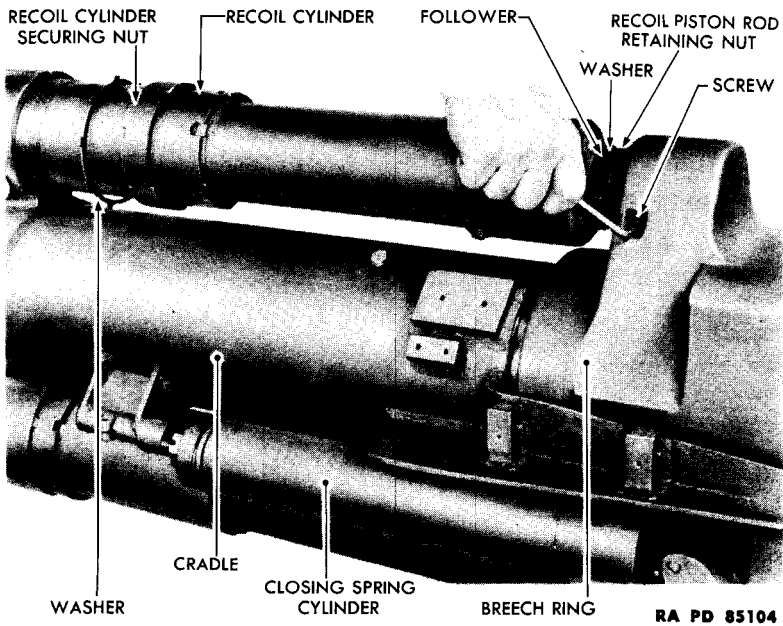
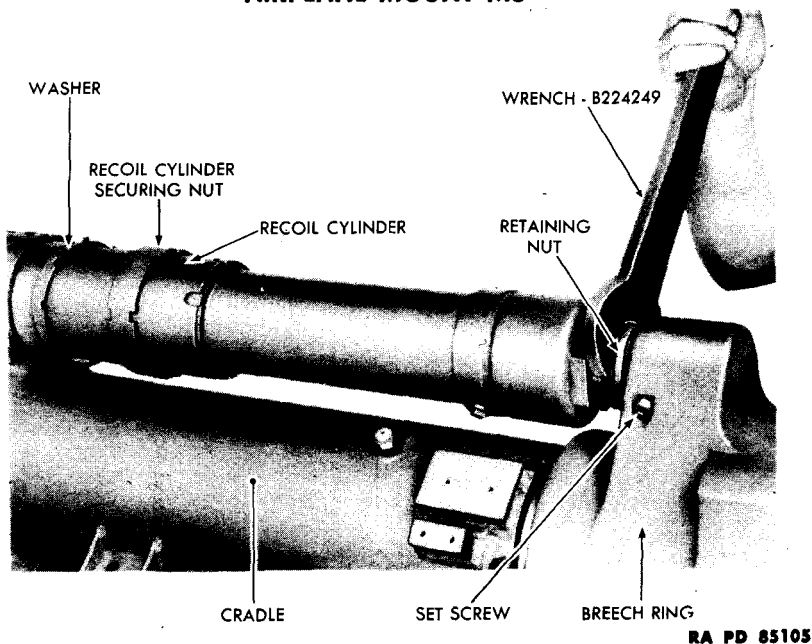

Figure 63 – Loosening Recoil Cylinder Coupler Nut Set Screw
Figure 64 – Removal of Recoil Cylinder Coupler Nut
d. Disconnect Recoil Cylinder from Breech Ring. Loosen set screw that secures retaining nut in breech ring (fig. 63). Unscrew retaining nut from breech ring (wrench B224249) (fig. 64). As this recoil cylinder retaining nut is unscrewed from breech ring, the recoil cylinder to which nut is installed moves out of ring as a unit. This causes keyway on forward shoulder of recoil cylinder to become disengaged from key welded on cradle after recoil cylinder securing nut is unscrewed from threads on recoil cylinder (subpar. c above) (fig. 65). Hold recoil cylinder with one hand to prevent it from turning as retaining nut is completely unscrewed from breech ring. Slide securing nut and washer from recoil cylinder.